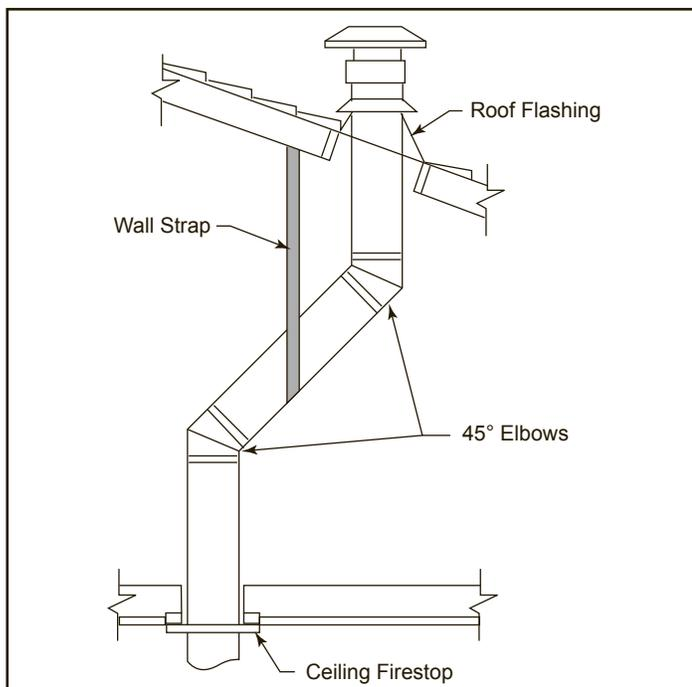

Figure 22 - Offset with Wall Strap and 45° Elbows
1. Determine the route your vertical venting will take. If ceiling joist, roof rafters or other framing will obstruct the venting system, consider an offset. Refer to Figure 22 to avoid cutting load bearing members.
NOTE: If an offset is needed to avoid obstructions, you must support the vent pipe every three (3) feet. Use wall straps for this purpose. Figure 22. Whenever possible, use 45° elbows instead of 90° elbows. The 45° elbow offers less restriction to the flow of the flue gases and intake air.
5. Place the flashing over the pipe section(s) extending through the roof. Secure the base of the flashing to the roof and framing with roofing nails. Be sure roofing material overlaps the top edge of the flashing as shown in Figure 22. There must be a 1" clearance from the vent pipe to combustible materials.